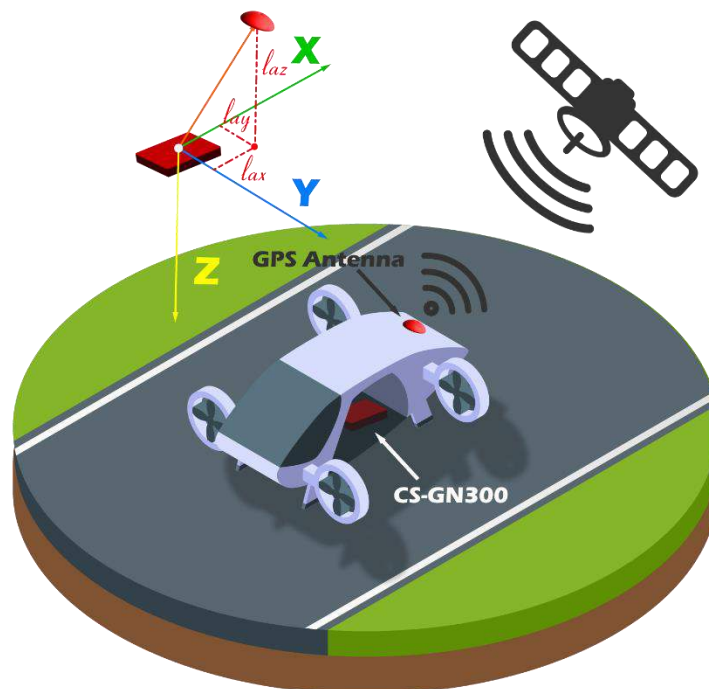

Figure 2. Example GNSS antenna lever-arm scenario
3. Proximity to other radio frequency (RF) transmission sources (e.g. telemetry radio) can negatively impact the GNSS signal-to-noise ratio.
4. If the separation between the GNSS antenna and the CS-GN300 sensor is significant (e.g. > 0.5 m), the GNSS antenna offset, also known as the GNSS lever arm, should be configured using the GNSS lever-arm command (table 9). This involves defining the vector between the CS-GN300 sensor and the GNSS antenna, expressed in the sensor coordinate frame, as shown in Figure 2. In this example scenario, the GNSS antenna offset is l_{ax} , l_{ay} , and l_{az} (here l_{az} is a negative number). The command `$nGLA, l_{ax} , l_{ay} , l_{az} *<cr>` can be used to configure the GNSS lever arm.